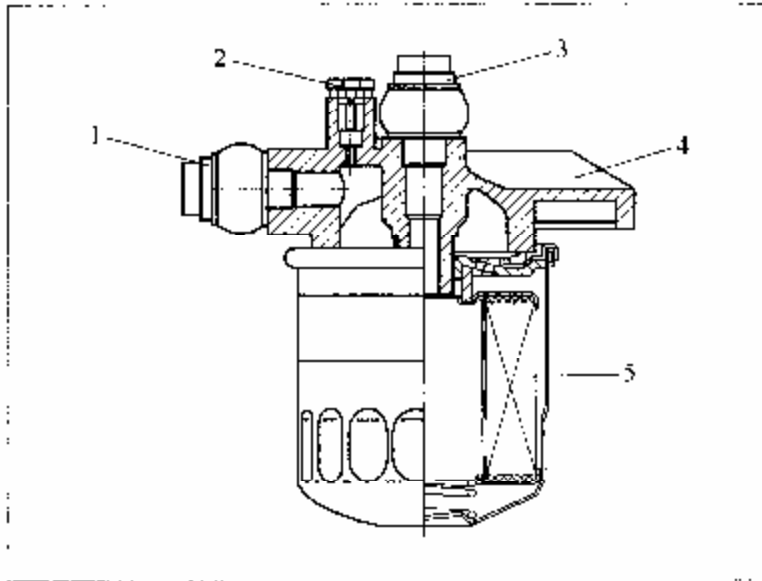

Fig.4-5 Fuel filter assembly
(1)Bleed a fuel filter: loosen vent valve on filter (see fig.4-5), pump fuel with hand pump on oil-water separator till there is no bubble in drained fuel. Retighten vent screw.